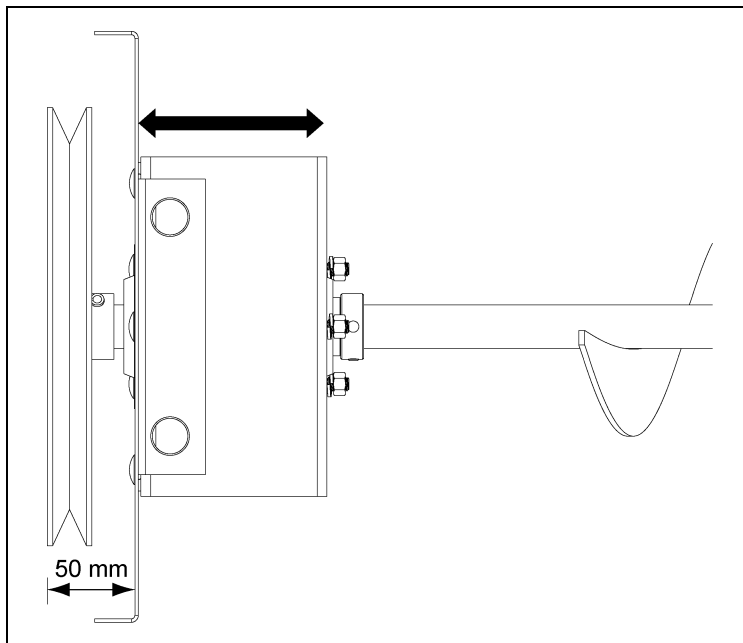

Figure 4F
Step 6: Adjust drive body position. (See Figure 4F.)